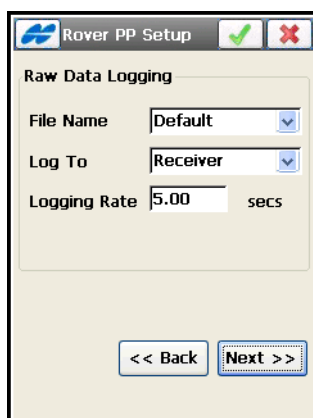

Figure 3-27. Rover PP Setup
displays first (Figure 3-27 on page 3-28). In the PP Static case, the **Occupation Times** screen is opened (Figure 3-47 on page 3-46).
- **Next** – opens the *Rover Radio* screen (see “Rover Radio” on page 3-31). For PP enabled RTK survey the **Next** button opens the *Rover PP Setup* screen (Figure 3-27 on page 3-28).